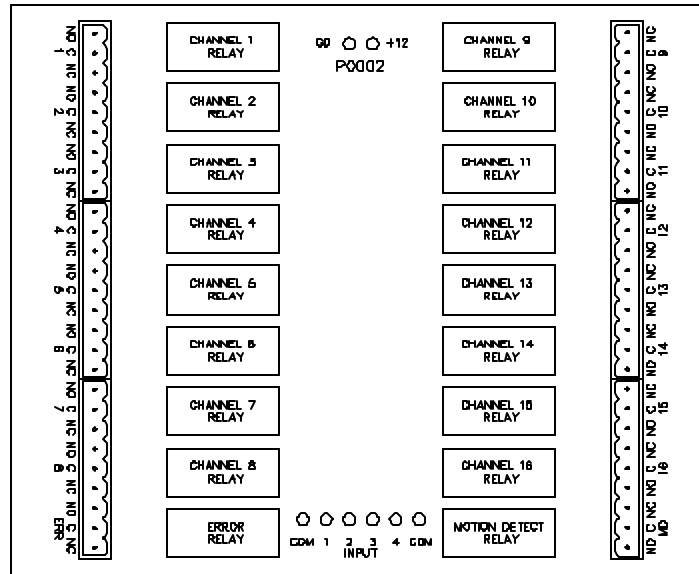
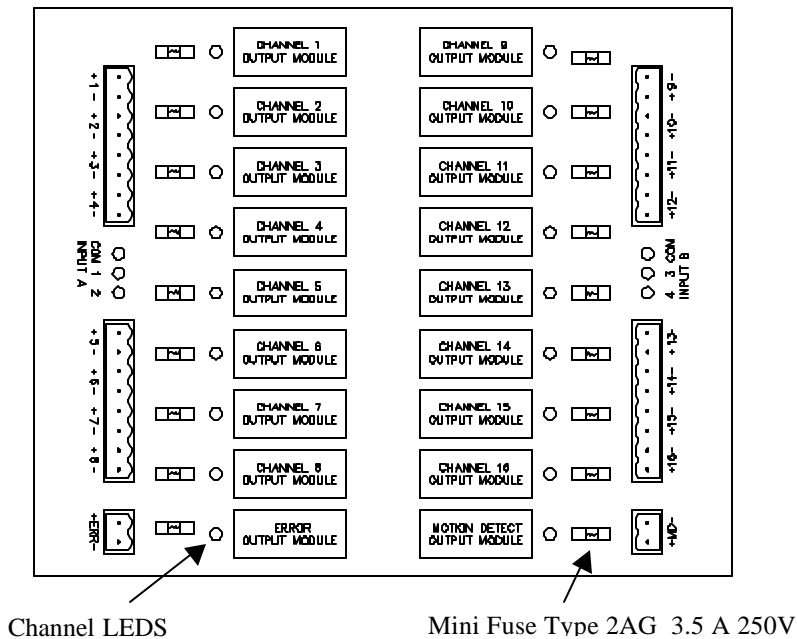

Figure 3.2.6A PLS-801 Relay Output Board
Figure 3.2.6B PLS-801 Solid State Output Module Board
The PLS-801 can be interfaced to an external output board that is equipped with either dry contact relays or solid state output modules. The LOBE setpoints stored within the PLS-801 memory will trigger the output board to activate or deactivate the relays or solid state modules as the angular transducer rotates. Figure 3.2.6A illustrates the relay output board and its connection definitions. Both normally closed (NC) and normally open (NO) contacts are available at the output connectors for each channel of this board. Figure 3.2.6B illustrates the solid state output module board and its connection definitions. The outputs of the solid state module are fused with type 2AG, 3.5Amp mini fuses for added protection. The solid state output module board also utilizes on board LEDs to signify the status of each channel. An illuminated LED indicates the channel is active and the associated output module is switched to the ON state.